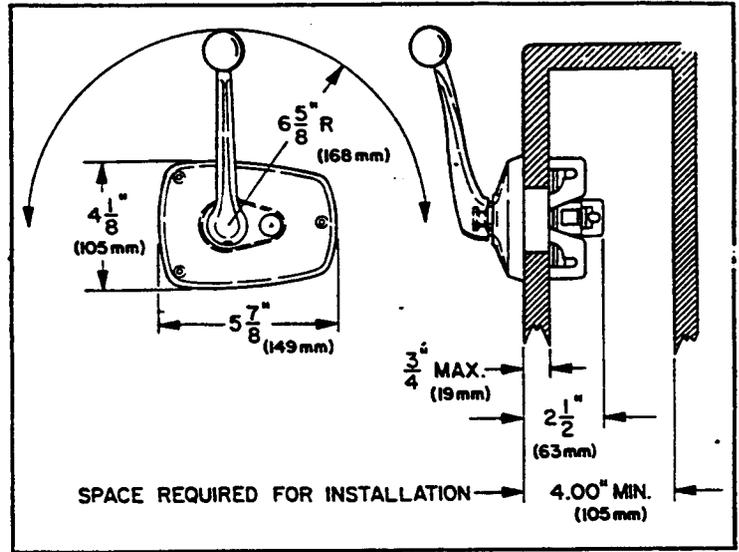

FIGURE 1
- b. Figure 1 shows the control dimensions and the recommended clearance behind the mounting surface.
- a. Place hand lever in forward position, so that as a result shift arm and throttle arm will take the least amount of space to feed hanger bracket through panel cutout. (See Figure 1.)